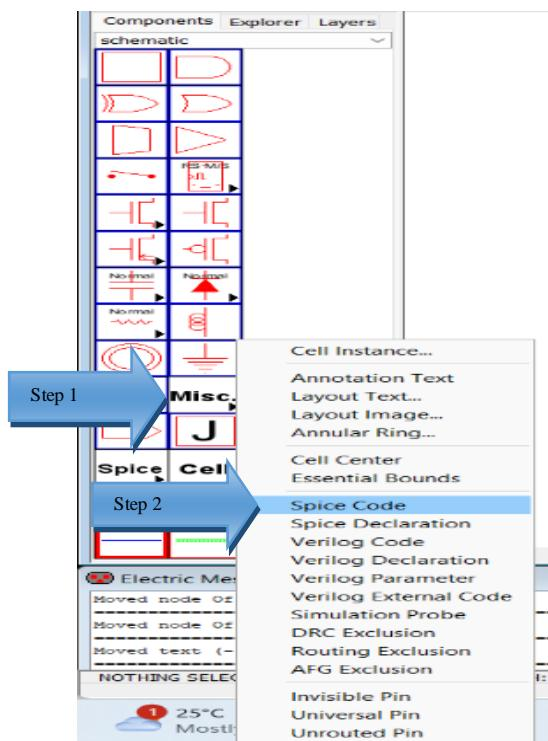

Figure 1.19: Select spice code.
13. Write spice code to describe how the inputs change in waveforms. then click on the main windows. (see Figure 1.19).